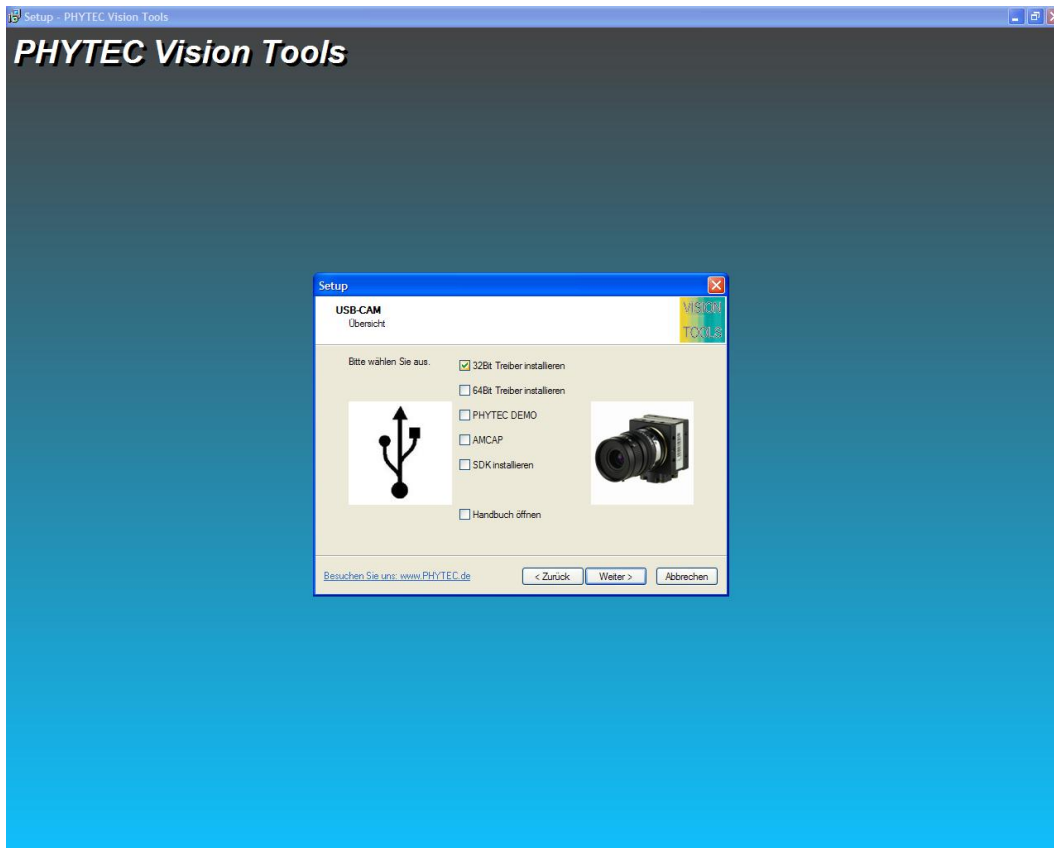

Figure 9: Installation Menu for the USB Camera
- Click on *USB-CAM*. You will be taken to the installation menu for the PHYTEC USB Camera. Install 32Bit Driver (*Figure 9*) and click on *Next*. To install the 64Bit driver, please select the 'Install 64Bit Driver'.